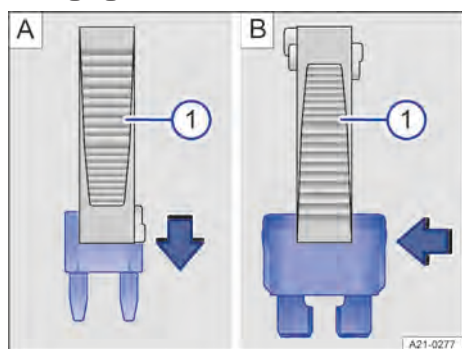

Fig. 185 Removing or inserting fuse (illustration).
1. If necessary, take the plastic pliers → Fig. 185 ① out of the cover of the respective fuse box.
2. Push the plastic grippers clip suitable for the fuse design onto the fuse from the top → Fig. 185 A or the side → Fig. 185 B.
4. If the fuse has blown, replace it with a new fuse of the same amp rating (same colour and same markings) and same size → ①.